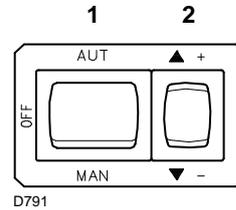

Fig. 21
- Start the burner by closing the control devices with switch 1) (Fig. 21) in the "MAN" position. As soon as the burner starts, check the direction of rotation of the fan blade, by looking through the flame inspection window 24)(Fig. 6 at page 13).
- The pump can be considered primed when the light oil starts coming out of the screw 3). Stop the burner: switch 1)(Fig. 21) set to "OFF" and tighten the screw 3).